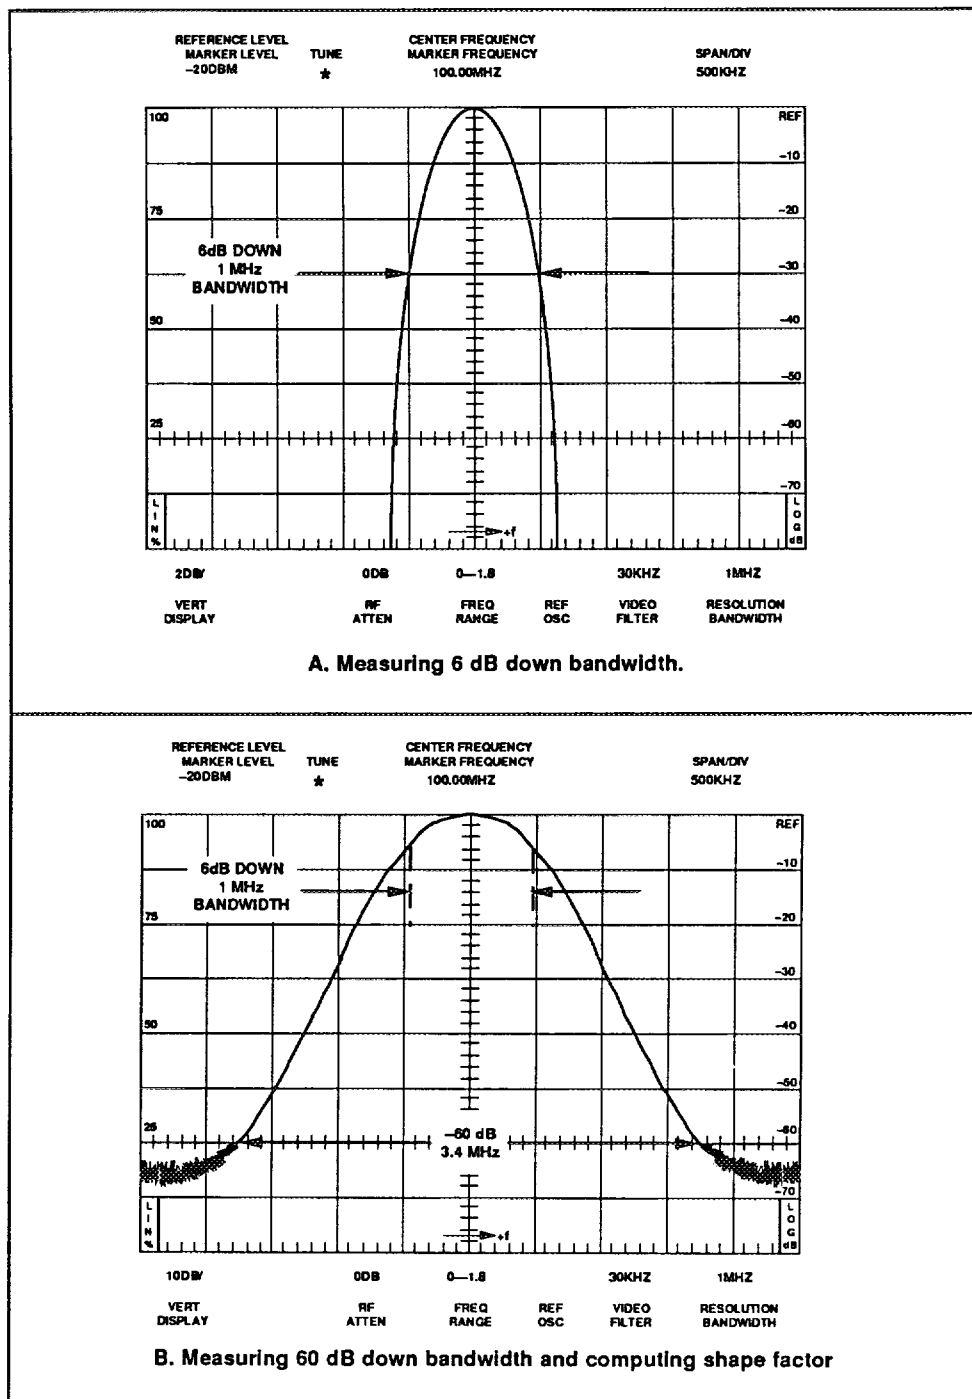

Figure 5-5. Displays that illustrate how bandwidth and shape factors are determined.
- d. Calculate the shape factor as the ratio of -60 dB/-6 dB bandwidths (see Figure 5-5). Shape factor should equal 7.5:1 or less.